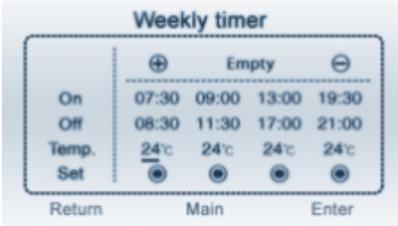
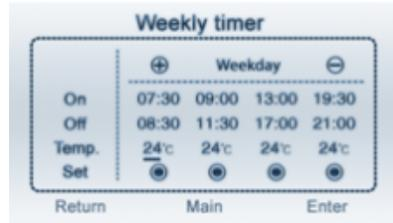
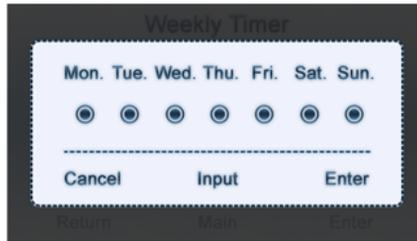

Figure 1
Figure 2
Figure 3
1. Proceed with main interface*Menu*Weekly timer*"Enter" to enter, which is shown in Figure 1; When the cursors is at \oplus , press "Enter" key to add a group of timing information; non-initial setting may be displayed as shown in Figure 2; maximally 7 groups of timing information can be set.
Press the "Enter" key, a window as shown in Figure 3 will pop out. The location where the cursor stays is flickering, \bigcirc indicates unselected and \bullet indicates selected ; press the "Input" key to select it so that it changes to \bullet or \bigcirc ; weekly timer can be set as you wish. After the selection has been done, press the "Enter" key to exit the setting of weekly timer; return to the main interface for weekly timer. If "from Sunday to Saturday" are selected, after pressing "Enter", the timing item should be "Daily"; If "from Monday to Friday" are selected, after pressing "enter", the timing item should be "Weekday", as shown in Figure 2.